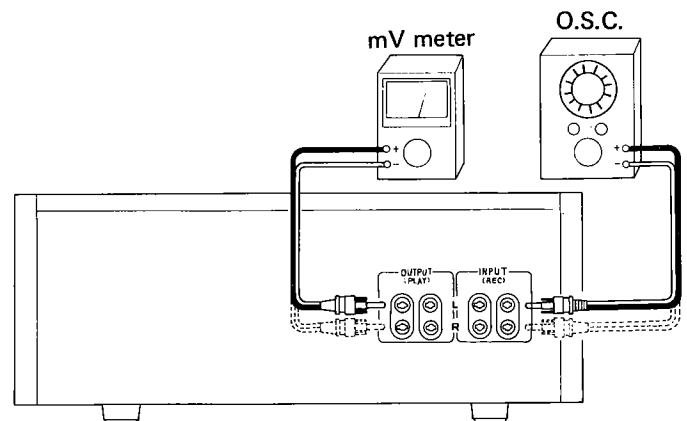

Fig. 20
**9.5 RECORDING CURRENT (Fig. 20, Photo 2)**
**9.6 BIAS TRAP (Fig. 20, Fig. 24-E-F)**
## 9.10 CONFIRM LIMITER OPERATION (Fig. 20)
## 9.11 CONFIRM PEAK INDICATOR OPERATION (Fig. 20)